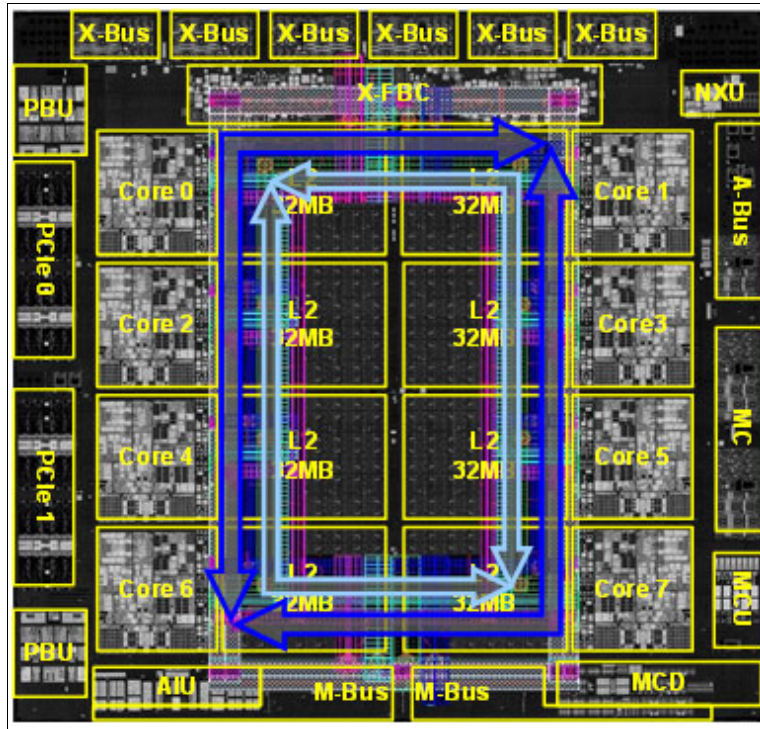

Figure 9-2 PU chip structure (w/ bidirectional ring shown)
- ▶ A processor unit (PU) chip is manufactured using 7nm CMOS FinFET technology featuring EUV lithography, and has eight cores (PUs) per chip (design) running at 4.6 GHz.
- ▶ Each core has private L1 (instruction and data) caches and a semi-private L2 cache, 32 MB in size. The eight cores and L2 caches on the chip communicate through bi-directional high speed on-chip ring and with all SMP, I/O and memory interfaces (see Figure 9-2).